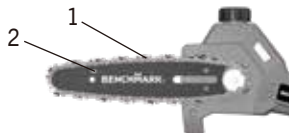

FIG. 5
3. Spread the saw chain (1) out into a loop. Use the graphical symbol located beneath the sprocket cover as a guide to the correct saw chain direction of travel (2) (Fig.5).